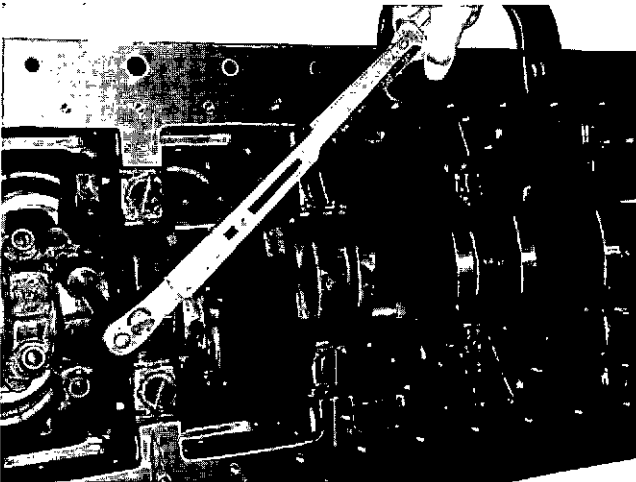

Fig. 14-1-23, V414220. Torquing rod nuts
a. Tighten connecting rod bolt nuts alternately to 140 to 150 ft-lb [19.3620 to 20.7450 kg m] with a torque wrench in 3 equal steps. Fig. 14-1-23.